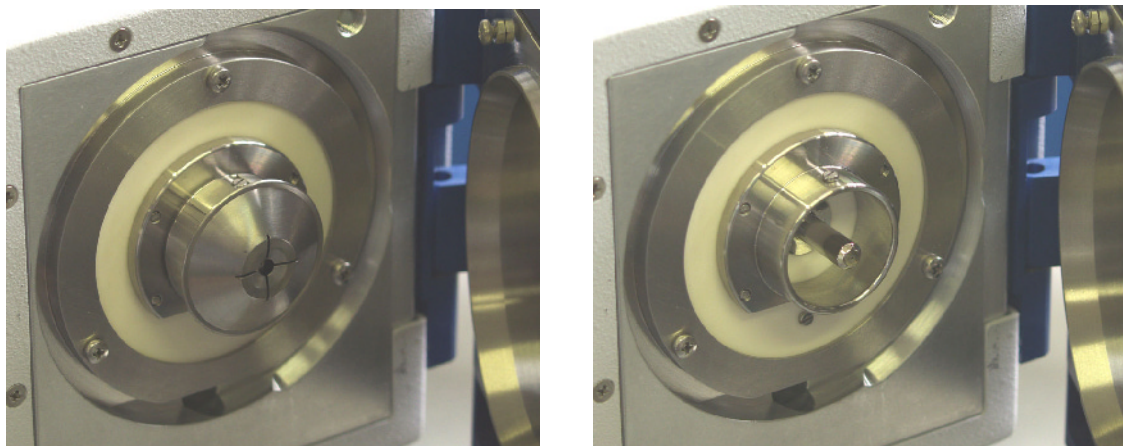

Figure 6-5 Endplate with Spray Shield in Place (left) and with Spray Shield Removed (right)
6. Release the latch on the left side of the spray chamber and swing the assembly out so that the spray shield is visible (left in Figure 6-5).
7. After the spray chamber has cooled, remove the spray shield from the end plate and capillary entrance (right in Figure 6-5).